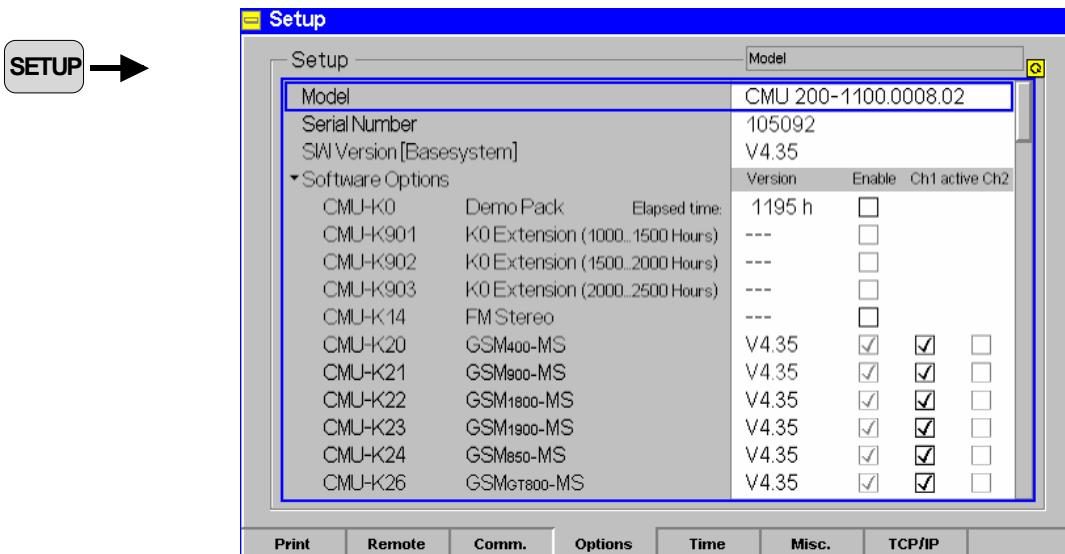

Fig. 4-9 Options menu
- Select the respective line in the list of software options (in the example of Fig. 4-9 the line CMU-K20 GSM400-MS).
Each of the options R&S CMU-K901, R&S CMU-K902, R&S CMU-K903 extends the period of time where the R&S CMU operates as a demo unit by another 500 hours. The options must be enabled in ascending order. In the example of Fig. 4-9 above, the *Elapsed Time* is 1195 hours. After enabling option R&S CMU-K0 and then R&S CMU-K901, the instrument will operate as a demo unit for another 1500 h – 1195 h = 305 h.